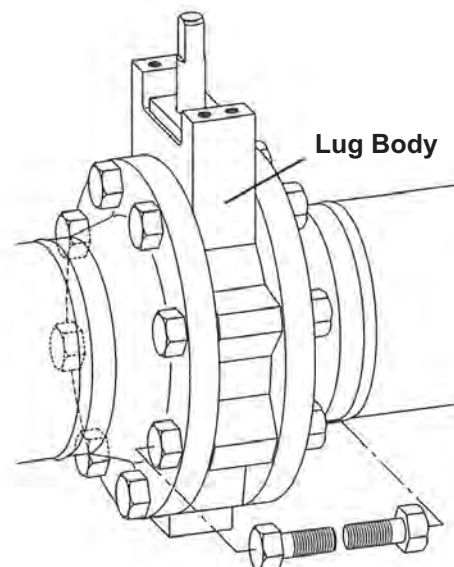

Figure 12
3. Lug body valves should be positioned between the flanges with gaskets properly centered and then the capscrews inserted (Figure 12).